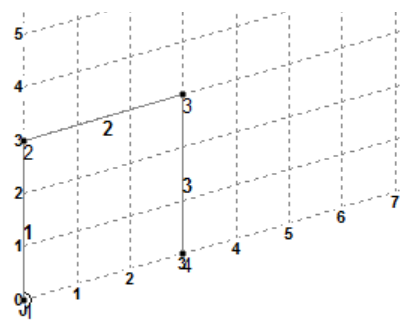

Figure 2-29 Nodes 2, 3, and 4 created alongwith the members
Step 5: Next, move the cursor in the Y direction and click at (0,3) coordinates; the node 2 is created along with the member 1, refer to Figure 2-29.
Step 6: Now, move the cursor in the X direction and click at the coordinates (3,3); the node 3 is created along with the member 2, refer to Figure 2-29.
Step 7: Move the cursor in the negative Y direction and create node 4 at coordinates (3,0), along with member 3, refer to Figure 2-29.